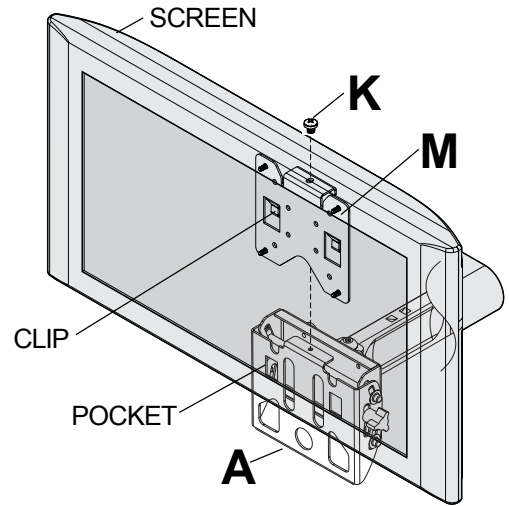
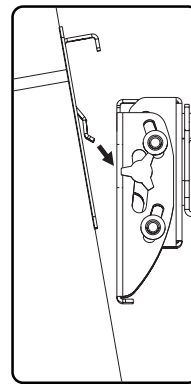
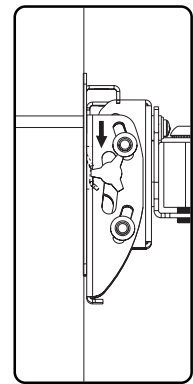

fig. 3.3
fig. 3.1
fig. 3.2
- 3** To attach screen to wall mount (A), lower hook bracket (M) with screen at an angle into pockets of wall mount as shown in figure 3.1. Once clips are engaged, push down to seat clips in pockets as shown in figure 3.2. Insert and tighten M5 phillips screw (K) to lock screen to wall mount as shown in figure 3.3.